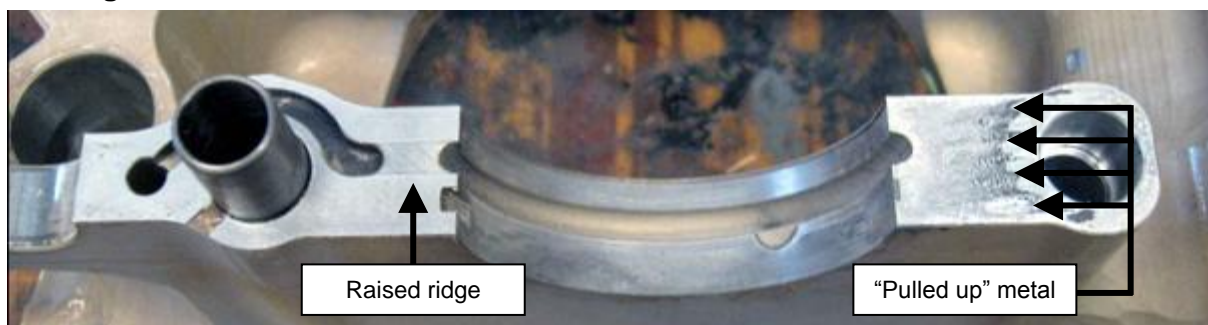

Figure 202 – Crankcase Fretting
- Cases which have suffered fretting can be identified as shown in Figure 202. There will be characteristic markings on the crankcase joining face near the main bearing journals which can be felt by scratching with a fingernail – the raised portions will be clearly evident.